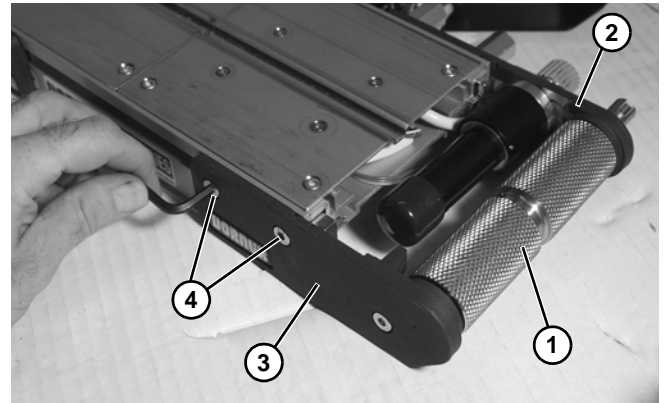

Figure 60
1. Install drive spindle (**Figure 60, item 1**) into head plate (**Figure 60, item 2**). Install head plate (**Figure 60, item 3**) and install screws (**Figure 60, item 4**).